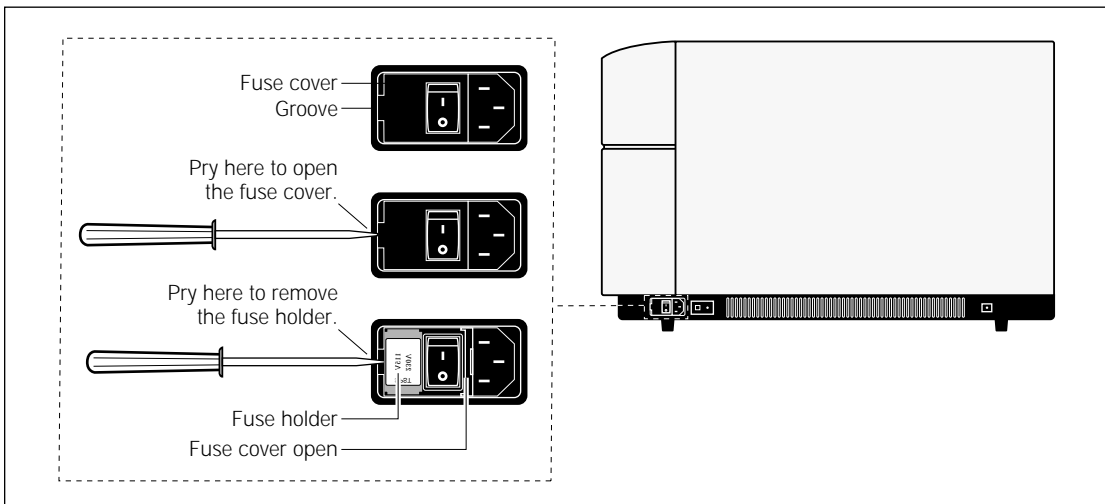

Figure 13-13. Opening the fuse box.
2. Place the end of a small flathead screwdriver into the groove to the right of the fuse box and pry open the fuse box (figure 13-13).